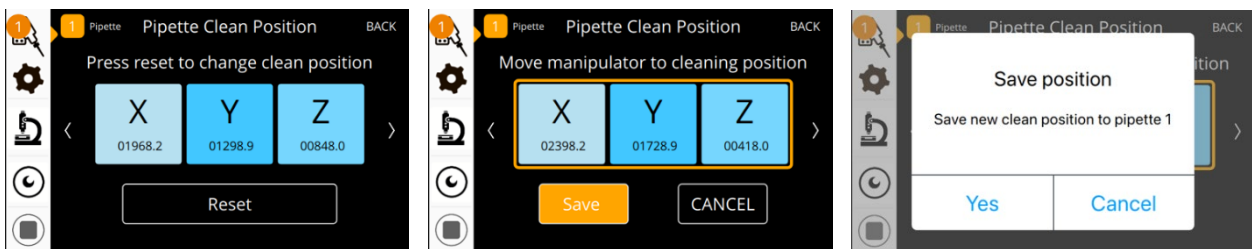

Figure 14. Pipette Clean Position.
8. Set the *Pipette Clean Position* by first pressing *Reset* button (Figure 14). Move the pipette tip to the *Clean Position* and press *Save* button. Confirm with pop-up dialog.